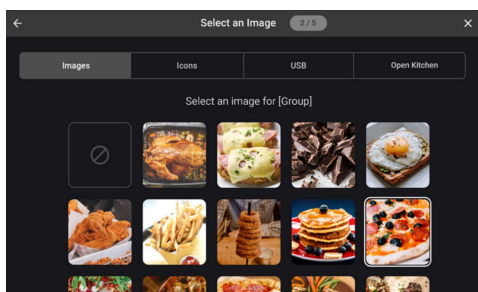

Figure 29: Select Image for New Recipe
7. Select an image and touch the blue “Next” button (Figure 29, below).